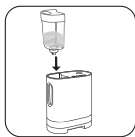

fig.14
3. Replace the cap and place the water tank back on to the base (fig.14)